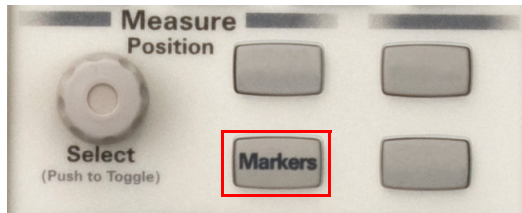

Figure 2-75 Markers button in the Measure section
- 2 You can also press **Markers** in the Measure section on the front panel as shown in Figure 2-75 or select **Tools > Marker** on the toolbar.